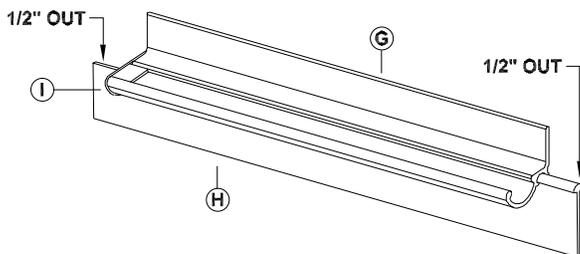

Figure 5b
Attach a Drip Plug (I) to strike side of Drip Rail (G). Insert Vinyl Sweep (H) into Drip Rail (G) cavity and extend Vinyl Sweep pass the Drip Rail edge as shown in Figure 5b.